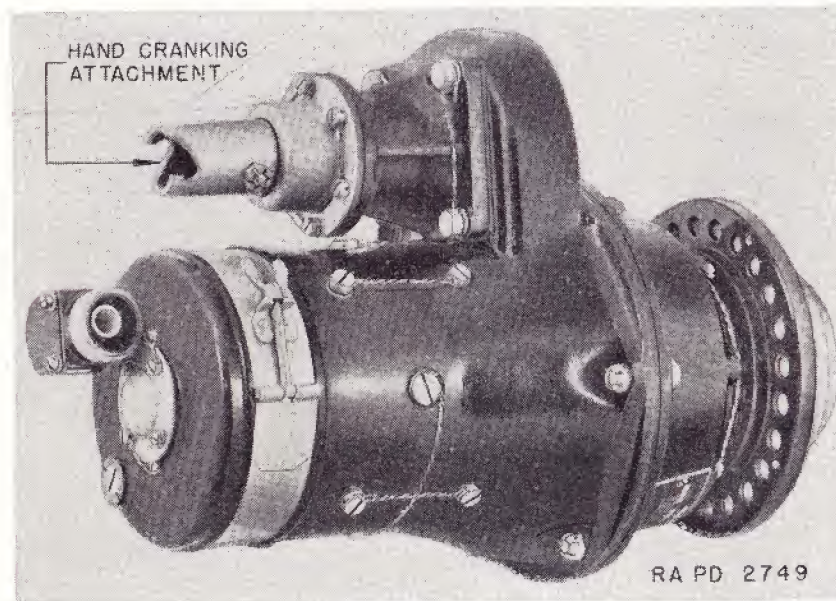

FIGURE 26. Electric starter.
52. Starter (fig. 26).—*a. Description.*—A 24-volt direct electric starter is used on this engine. The starter should be used only for cranking the engine. It must not be used to move the tank when the engine is not functioning.